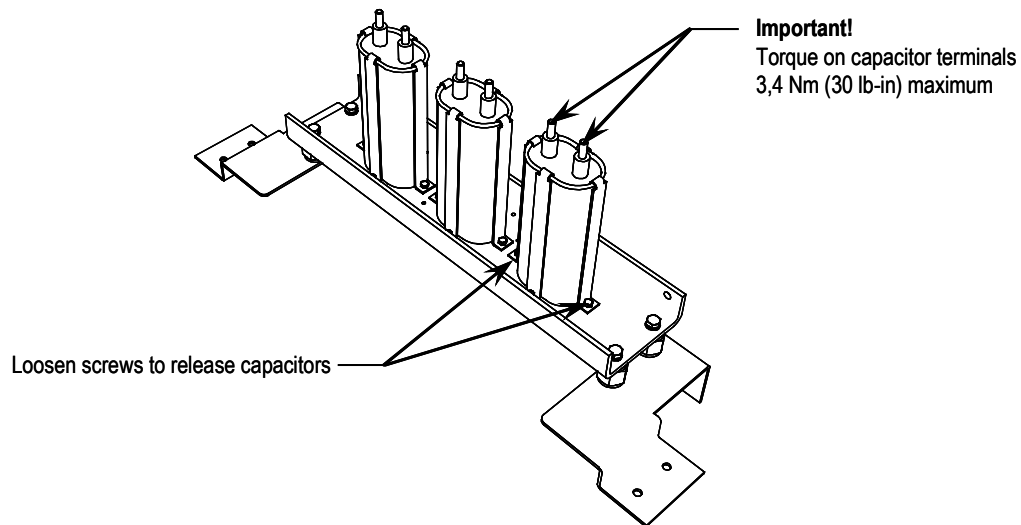

Figure 6.43 – Output Grounding Network
6. Replace the ring lugs and 6.4-mm (¼ inch) hardware. (See Figure 6.43)